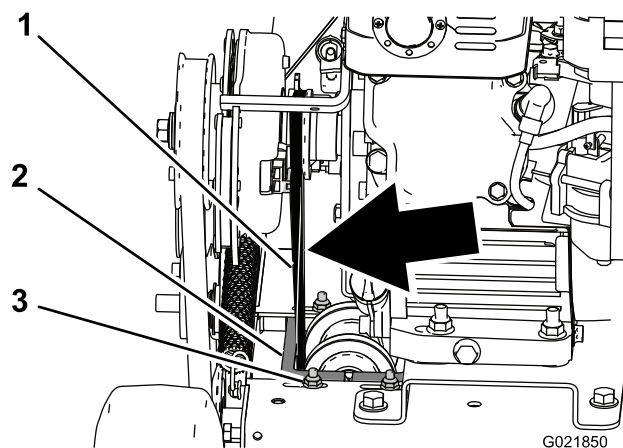

Figure 24
4. Check the tension of the belt. It should not flex more than a 6 mm (1/4 inch) with moderate finger pressure applied to the span just above the machine frame (Figure 24).
move the carriage to the left, tightening the belt; then secure the 4 mounting nuts and bolts (Figure 24).